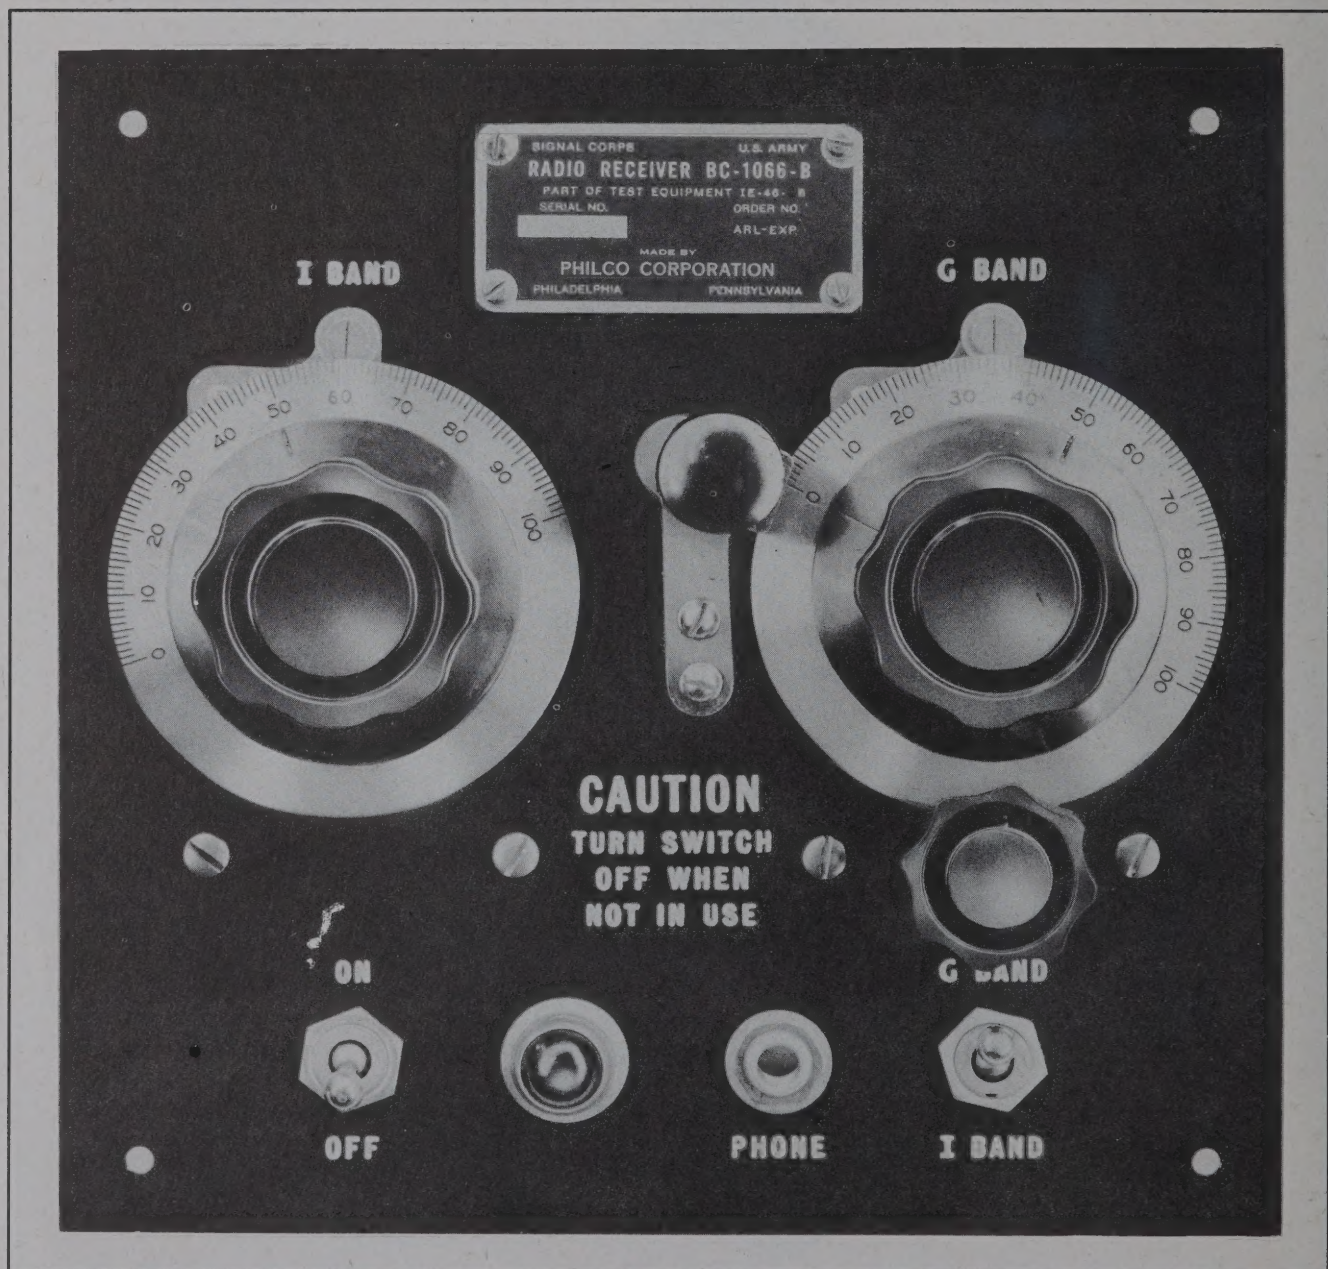

Figure 1-2. Radio Receiver BC-1066-A or BC-1066-B—Front Panel View
b. All the controls appear on the top panel of the receiver where they are easily accessible. (See figure 1-2.)